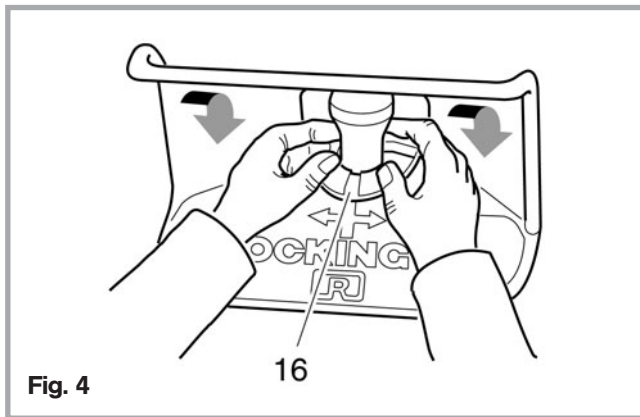

Fig. 4
- Dismantle hand lever (9)
- Clamp bearing washers (13) with suitable assembling tool (see illustration) on left and right
- Remove circclip (11) with circclip pliers **A1**
- Insert new circclip (18 x 1,5) into the groove (12)
- Knock hand lever axle (10) through carefully
- Dismount spacer (D)
- Remove circclip (14) with circclip pliers **A1**
5. Replacement of the support ring (see fig. 4, 5)